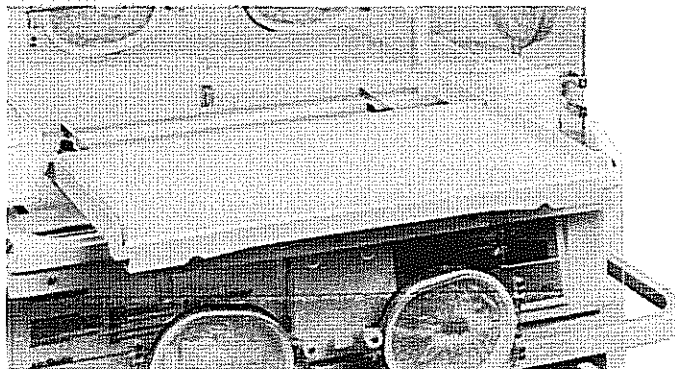

FIGURE 2.11 MATTRESS TRAY OPERATION
- M. **CHECK MATTRESS TRAY** by sliding it out to the fully extended position as shown in Figure 2.11. Lean on Mattress Tray; make sure it is properly supported to provide a firm infant platform.